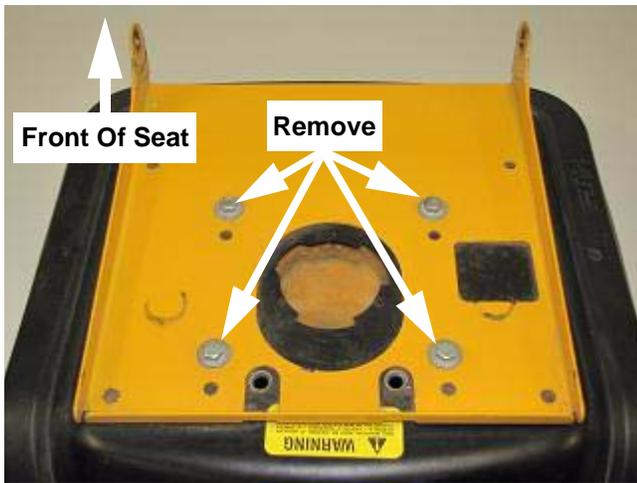

FIGURE 17
- 35. Remove the four (4) 5/16-18 x .75" hex head cap screws and four (4) bell washers and discard. See Figure 17.